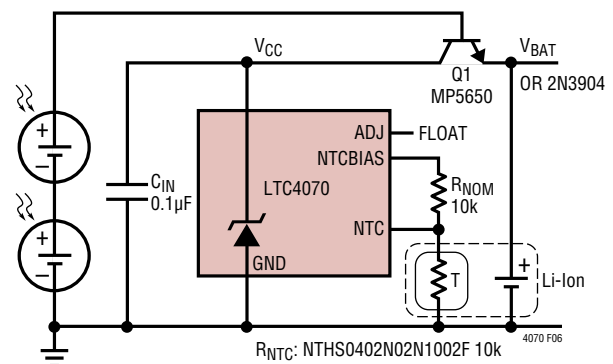

Figure 6. Photovoltaic Charger with Extremely Low Leakage When Not Charging
A photovoltaic (PV) application for the LTC4070 is illustrated in Figure 6. In this application, transistor Q1 has been added to further reduce the already low quiescent current of the LTC4070 to achieve extremely low battery discharge when the PV cells are not charging the battery. In long battery life applications, Q1 isolates the battery from the LTC4070 when Q1's base voltage falls. Under normal operation, the PV cells provide current through
The PV application schematic in Figure 6 also illustrates using the LTC4070 with a 10k Ω , 5% curve 2 type NTC thermistor, NTHS0402N02N1002F. Here R_{NOM} is 10k Ω , and the rising temperature trip points are 40 $^{\circ}$ C, 50 $^{\circ}$ C, 60 $^{\circ}$ C and 70 $^{\circ}$ C.